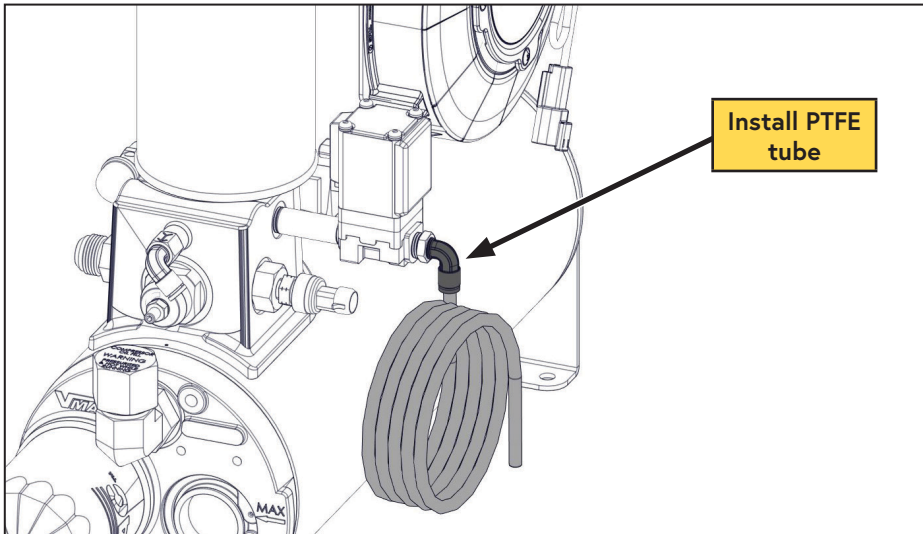

Figure 32 — Tubing Installation
- Connect the 1/4 in PTFE tube into the push-to-connect fitting installed in the WHASP Tank (Figure 32).
- Install the tube into the push-to-connect bulkhead fitting (Figure 32)